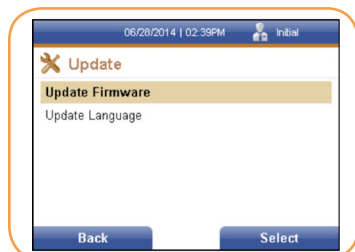

FIGURE 117
1. From the *Supervisor* screen, use the [↓] key to cursor down to the Update text field. Press the right soft key to select it. The *Update* screen is displayed (Figure 117).